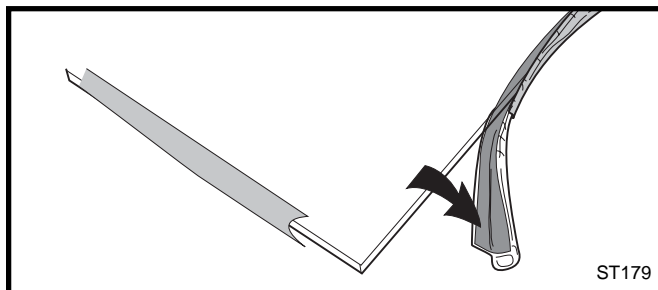

Fig. 69 Wrap the gasket material around the outside edge of the glass.
3. Starting on a long edge, remove about 6" of the protective paper strip and apply the flat adhesive face of the gasket around the outside-facing edge of the panel. Continue around the panel, applying a bout 6" at a time and being careful to not stretch the material. Do not overlap the gasket ends. (Fig. 69)